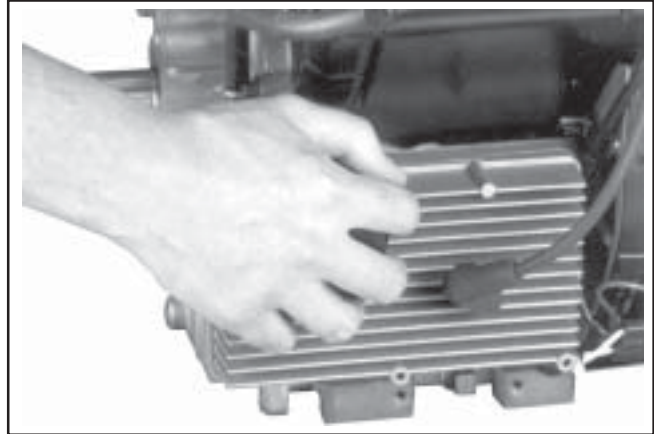

Figure 11-102. Hand Tightening Oil Filter.
3. Hand tighten the filter until the rubber gasket contacts the adapter, then tighten the filter an additional 3/4-1 turn. See Figure 11-102.